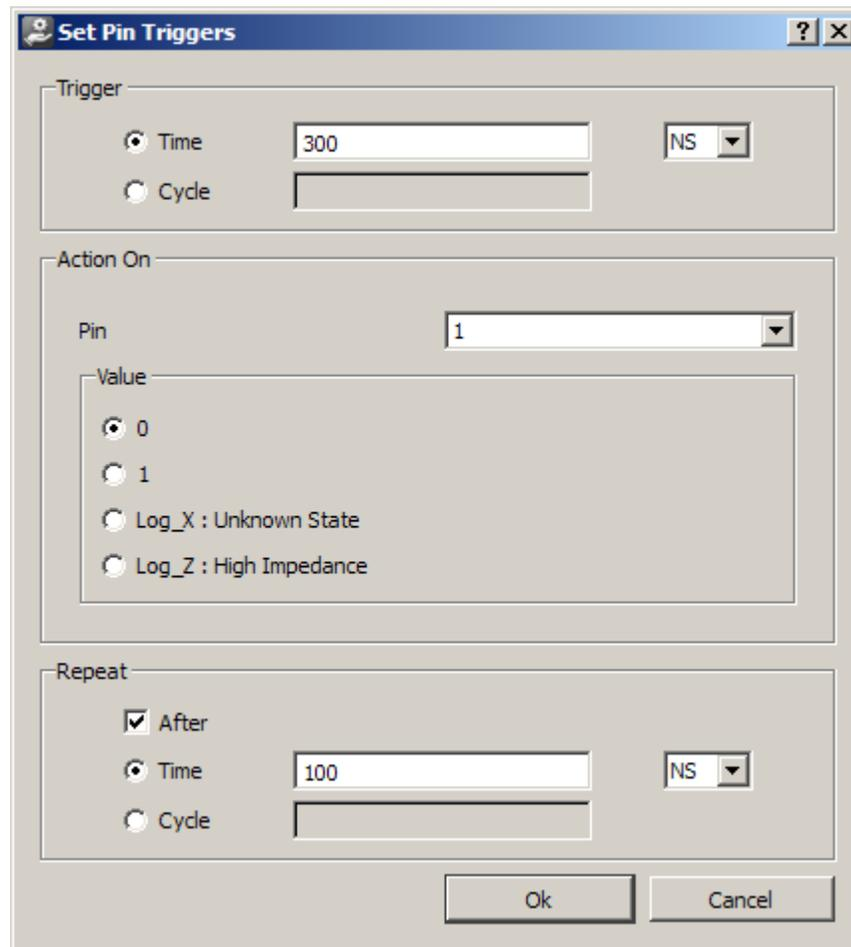

Figure 19. Pin Trigger to Drive Pin 1 Low Periodically
15. Press "Add" a second time, to add a second pin trigger. Configure the trigger to drive pin 1 low again, starting at 300 ns into the simulation and repeating every 100 ns. The completed dialog for this trigger is shown in Figure 19